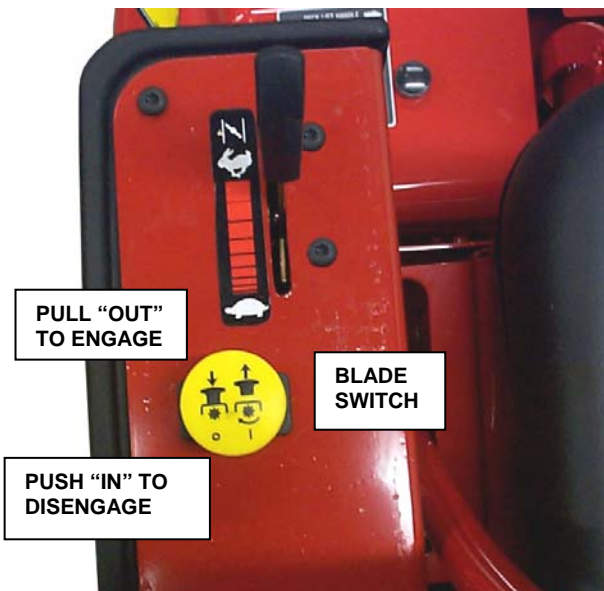

FIGURE 2.2
**2.1.4.** Check Blade switch to insure it works freely. Switch is pulled "OUT" into the "ON" position for blade engagement or pushed back "IN" into the "OFF" position for blade disengagement. See Figure 2.2. **IMPORTANT:** Disengagement stops the blades rotation.